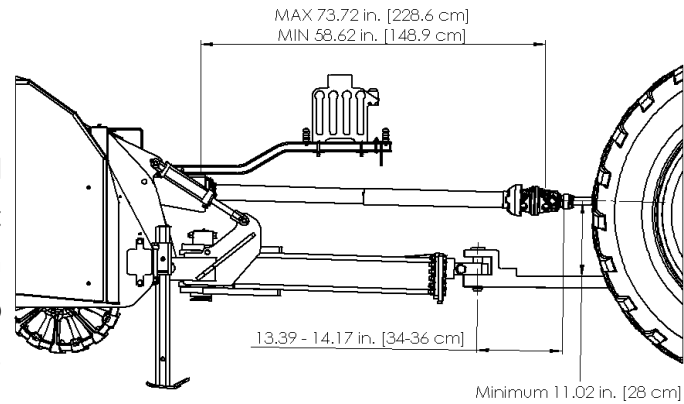

Figure 4-1: Drawbar Range
4.1.1 Adjusting the Drawbar: It is recommended that the tractor drawbar be set to the shortest position and be within the given range (in accordance with ANSI/ASABE AD6489-3) to maintain the integrity of the drive system. Dimensions are shown in Figure 4-1.